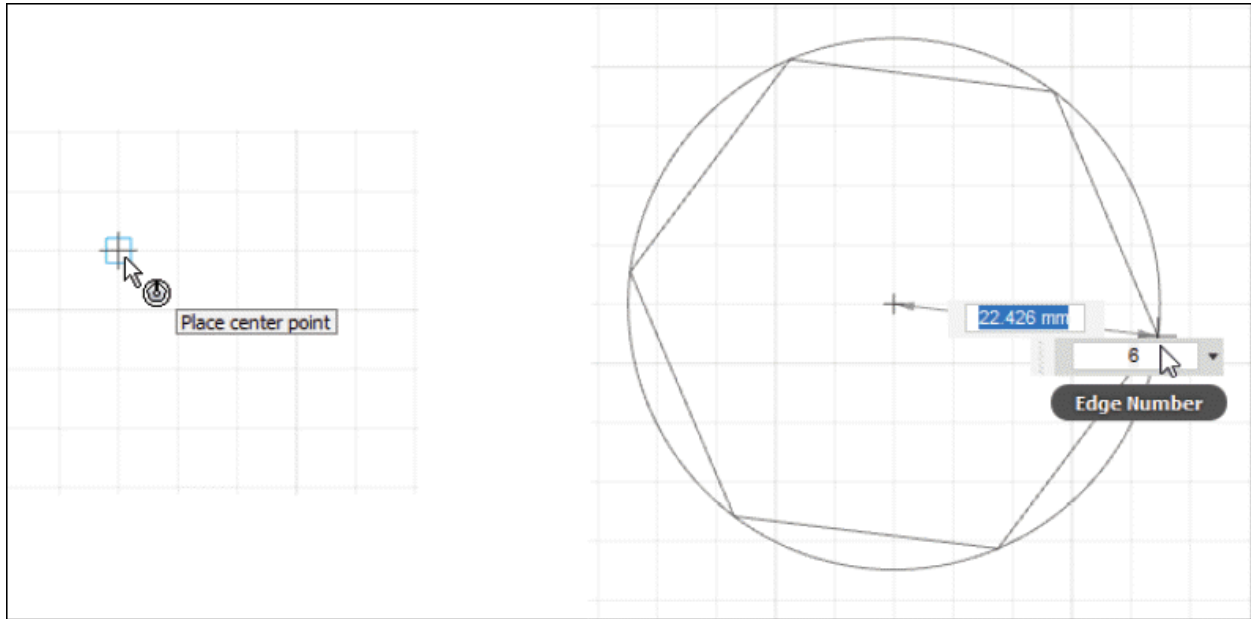

Figure-27. Creation of inscribed polygon
- Click on the screen to specify the center point of the circle; refer to Figure-27.